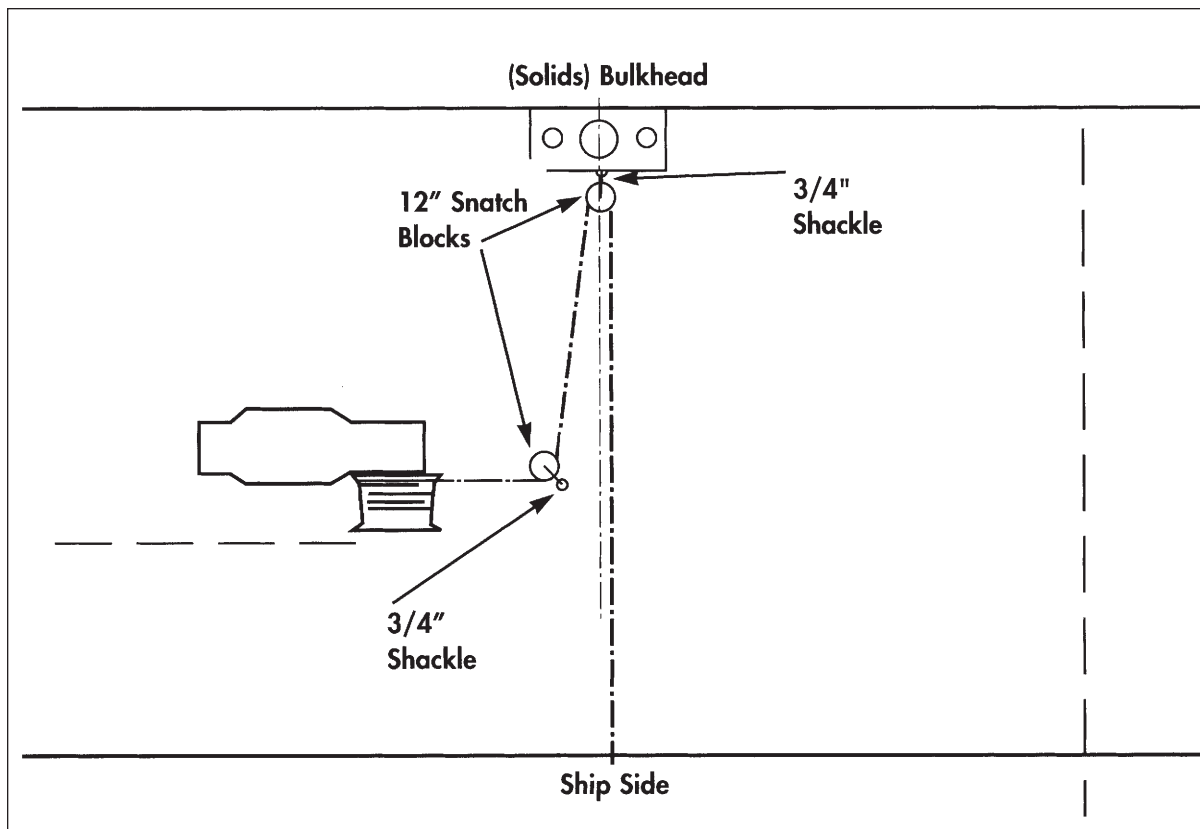
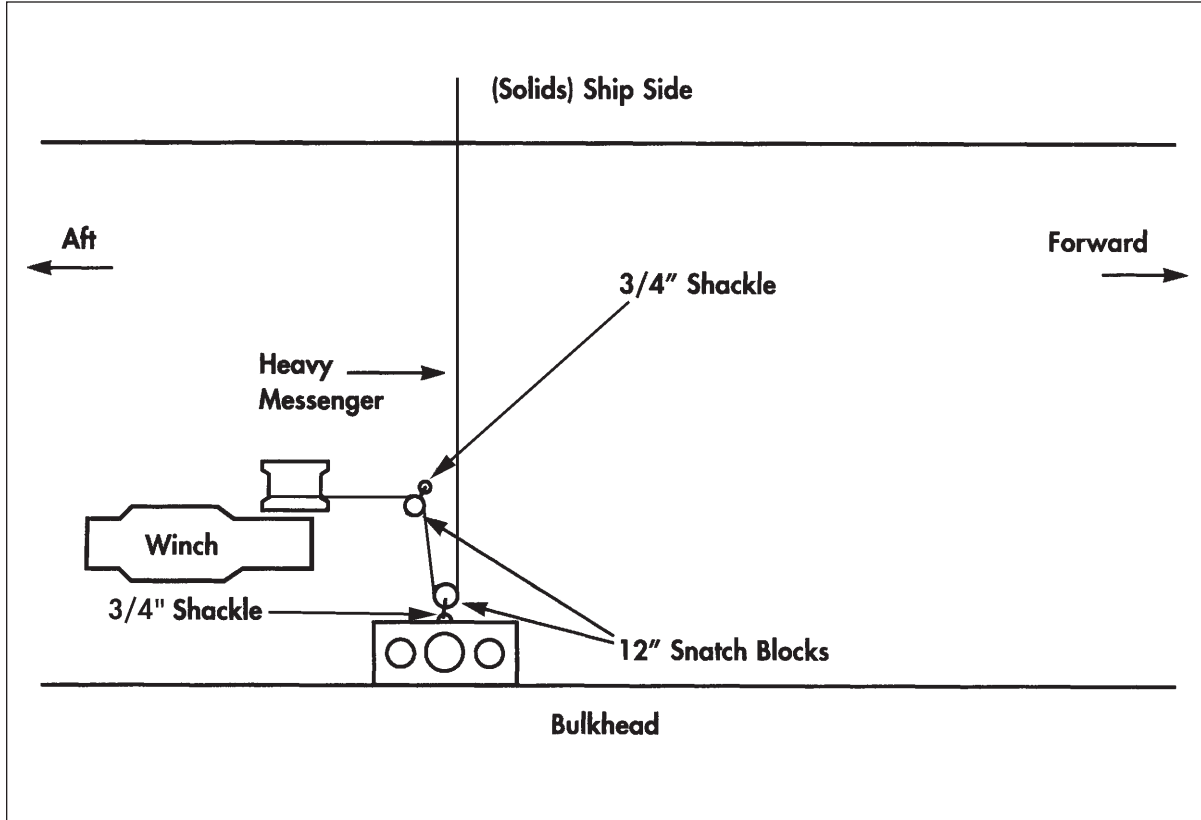

Figure 9.22-13 - Heavy Jackstay Station 3
Figure 9.22-14 - Heavy Jackstay Station 4
b. **Station 3 Heavy Jackstay General Layout.** The bulkhead mounted sliding padeye receiving unit is located on top part ship. The remaining gear is laid out as follows [see Figure 9.22-13]:
- (1) The upper 12" snatch block is shackled to the eye directly under the elongated link on the stream adapter plate.
- (2) The lower 12" snatch block is shackled to reversible padeye No. 23 (R) (old), No. 25 (R) (new) as indicated in the diagram. [See Figure 9.22-14.]
- (3) The easing out pendant is secured to the staple on the sliding padeye. When rigged, it is led through the eye of the slip on the highline and secured to the cleat on the sliding padeye.
- (4) The line-handling winch is located aft of the station. A tag line is passed from the station to the bridge to facilitate passing the telephone/distance line to the bridge.